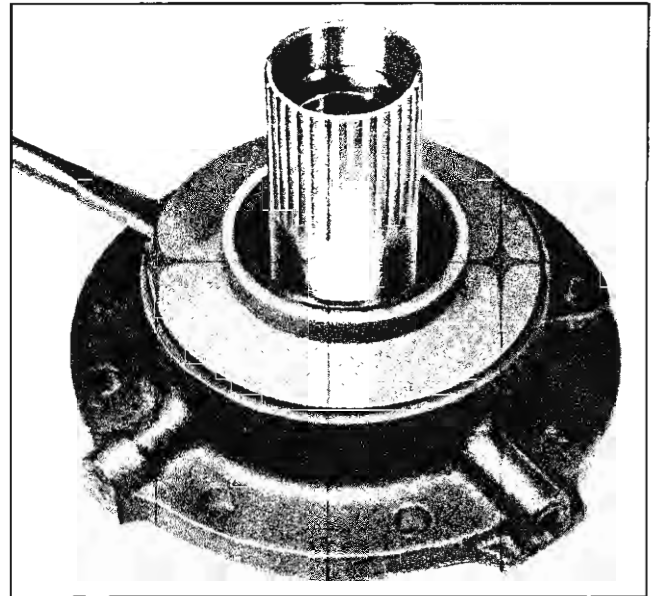

Fig. 4-49 Removing Rear Flange and Stator Seal
5. Pry off rear flange and stator seal as shown (Fig. 4-49).